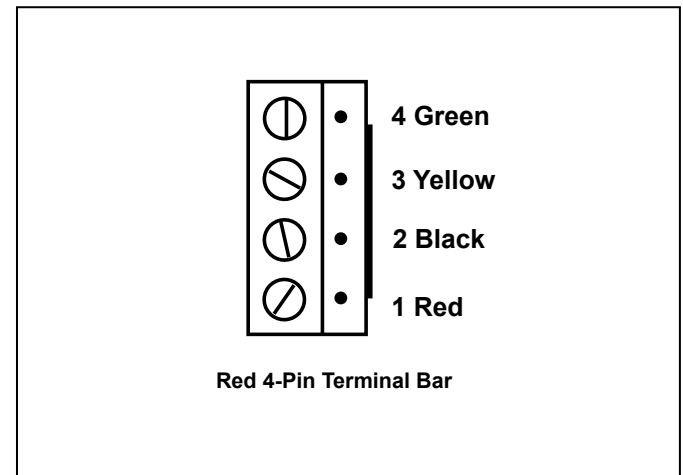

Figure 5. RS-485 Wiring
3. Connect four (4) separate wires to each terminal (Figure 5).